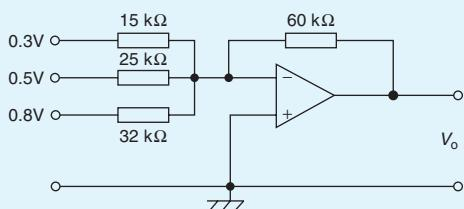

Figure 19.20
- For the summing op amp shown in Fig. 19.20, determine the output voltage,  $V_o$